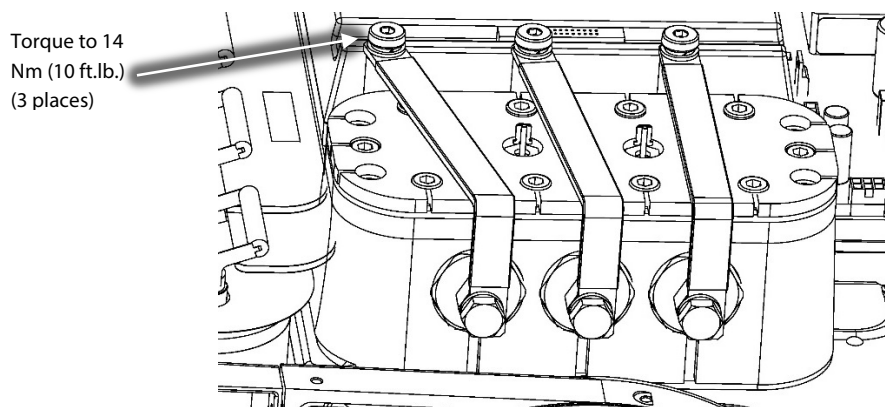

Figure 26 – Motor Bus Bar Installation
10. Install the four new (4) M6X35 SCR Cooling Manifold screws and torque to 8 Nm (71 in.lb.).
12. Install the three (3) copper tubes and torque the screws to specification. Refer to Figure 26 (Motor Bus Bar Installation).